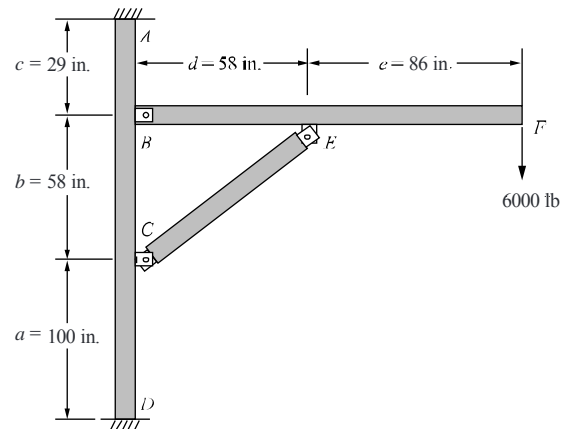

Figure P5-60
- 5.60 Design a jib crane as shown in Figure P5-60 that will support a downward load of 6000 lb. Choose a common structural steel shape for all members. Use allowable stresses of  $0.66 S_y$  ( $S_y$  is the yield strength of the material) in bending, and  $0.60 S_y$  in tension